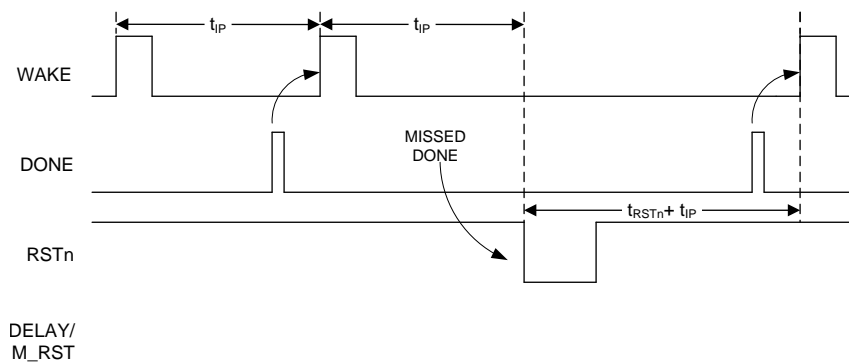
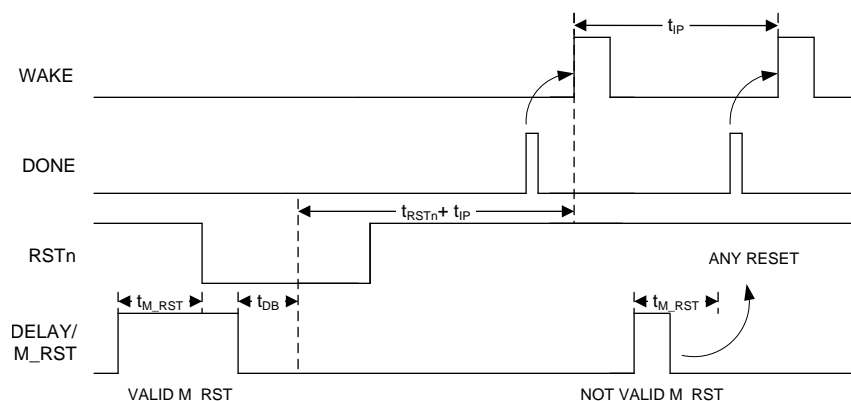

Figure 8. Watchdog
Figure 10. Manual Reset
- 2. At the beginning of a new time interval if DONE is not received at least 20 ms before the next WAKE rising edge (see Figure 8).
During normal operating mode, the TPL5010 asserts periodic WAKE pulses in response to valid DONE pulses from the uC. If either a manual reset is applied (logic HIGH on DELAY/M_RST pin) or the uC does not issue a DONE pulse within the required time, the TPL5010 asserts the RSTn signal to the uC and restarts its internal counters. See Figure 8 and Figure 10.